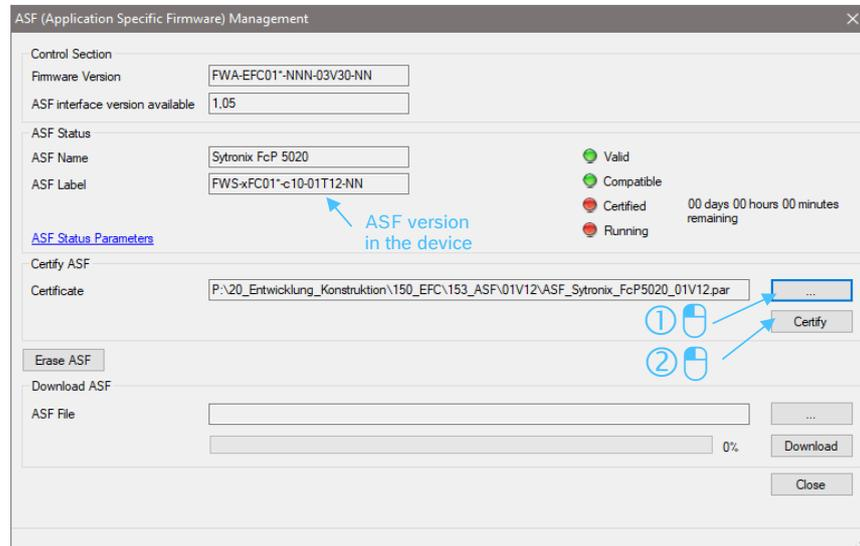

Abb. 16: Licensing ASF window
- ▶ Click on "..." to navigate to an ASF license file (*.par) and then click on "Certify" to certify the version (see Abb. 16: Licensing ASF window).